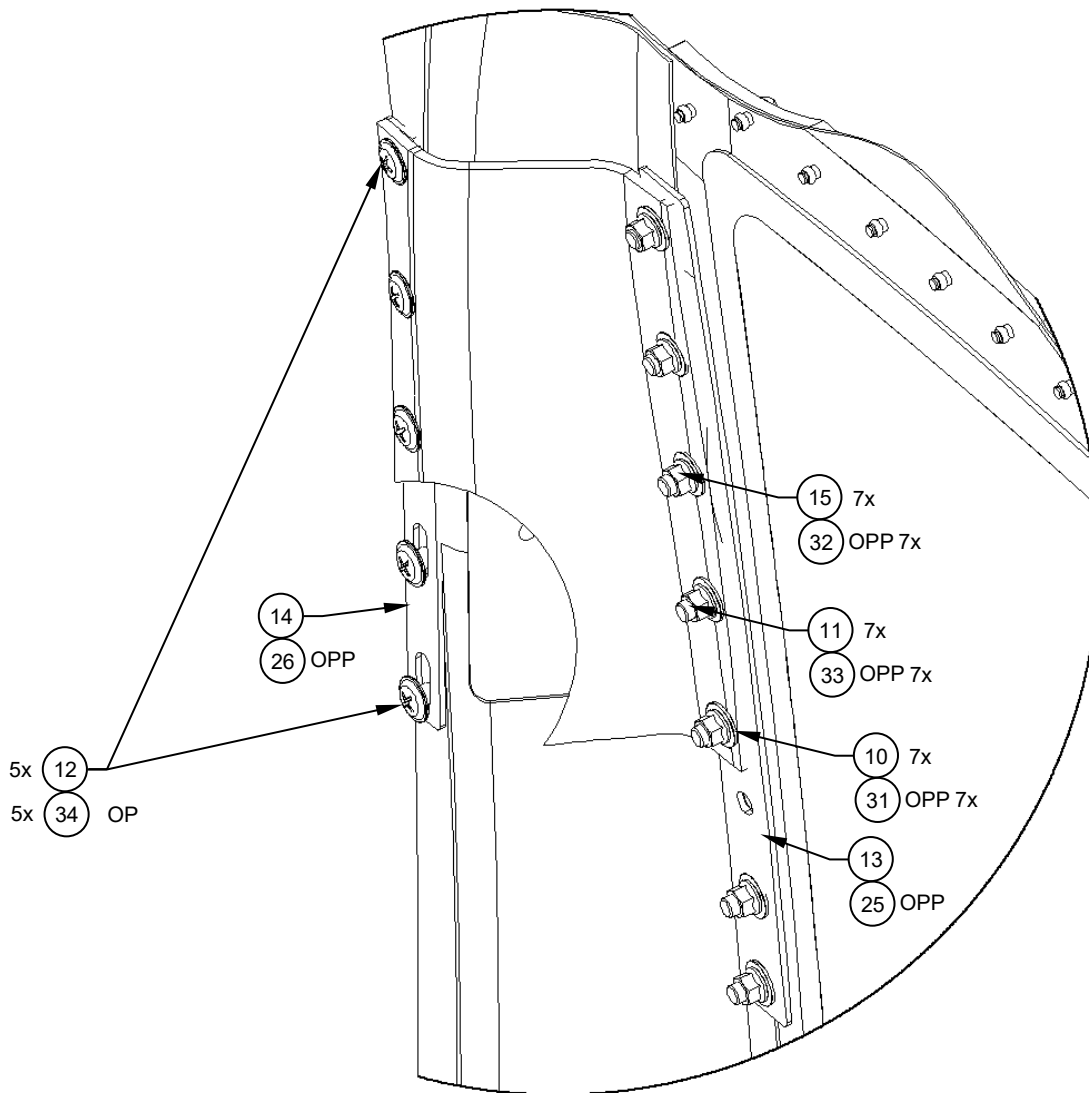

Figure 5
6. Re-install the Inspection panel using the Doubler, Detail (Item 13, 25 OPP), Spacer, Detail (Item 14, 26 OPP) and supplied hardware as shown. Reference Figure 5.